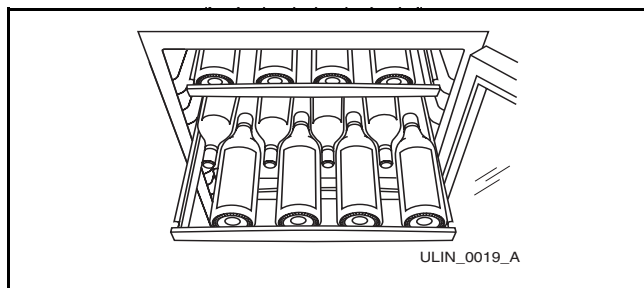

Figure 4
1. The wine racks should be stocked staggering the bottles as shown (Figure 4).
2. Repeat Step 1 to stock the next higher rack, and continue until all racks are filled (Figure 4).